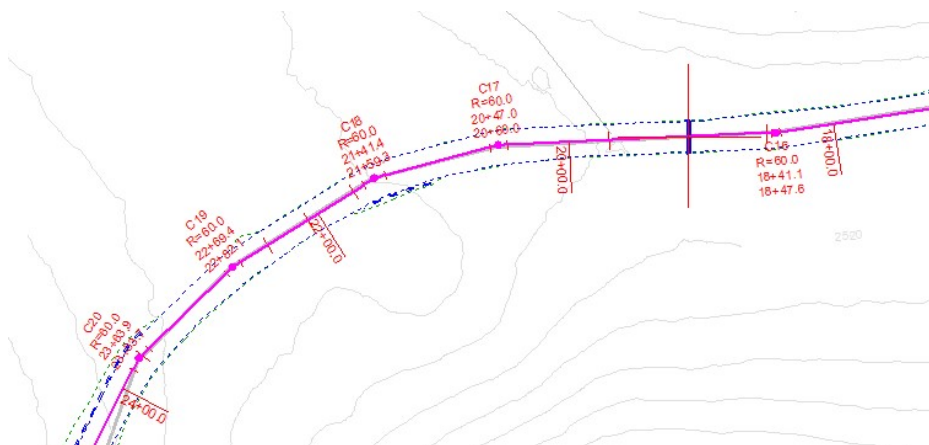

Figure 21-6: Curve Information Labels
7. Press *OK* to return to the *Profile Options* dialogue. This should appear as in Figure 21-6 below.